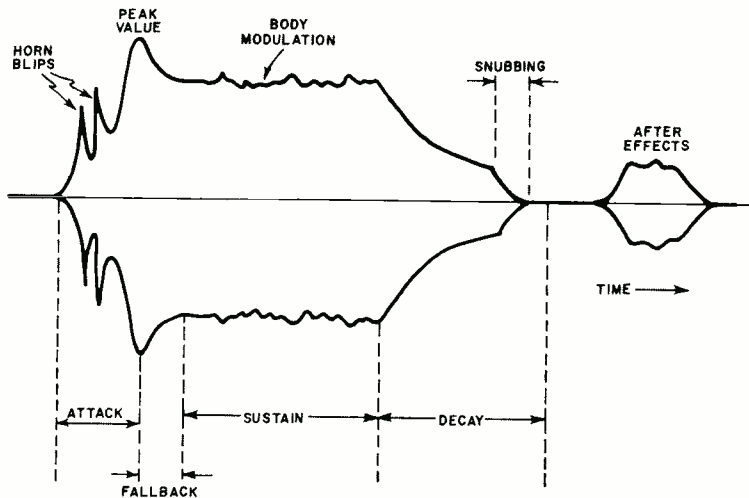

Fig. 1. Envelope of a note showing various characteristics.
**Envelope Generation.** In Fig. 1 are illustrated some of the things we might want to build into a single note or tone. For the sake of simplicity, assume that the frequency structure of the tone will remain constant for the tone's duration. (If it does not, simply use more of the same techniques, routing some of the envelope commands to filters instead of to keyers or vca's.) This leaves us with the basic amplitude shape shown. Now, let us examine the individual parts of our note.